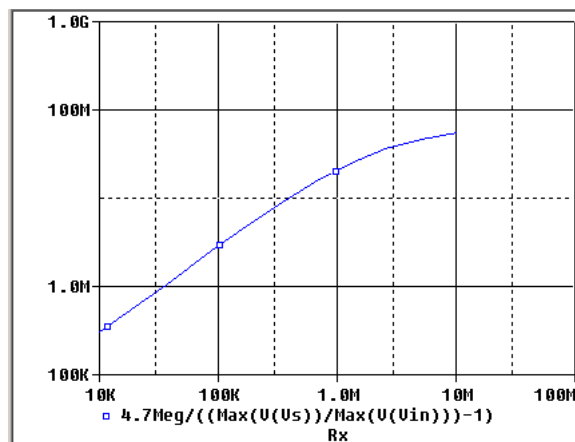

Figure 10B-1R: Simulation of figure 10B-1. Log-log scaling can be accomplished by toggling the axis displays (buttons) on your Probe window.
5. Execute a circuit simulation of figure 10B-1, with R_X stepped using the **Analysis>Setup>Parameter** menu. Use the 'Trace >Performance Analysis' menu of your Probe postprocessor and have it perform the function
where V_{in} and V_S are as indicated by the figure 10B-1. This performance analysis should give a simulation result for R_{in} vs R_X similar to that shown by figure 10B-1R. Make use of log-log scaling since it is more consistent with the octave measurement scheme of parts B-2 and B-3.